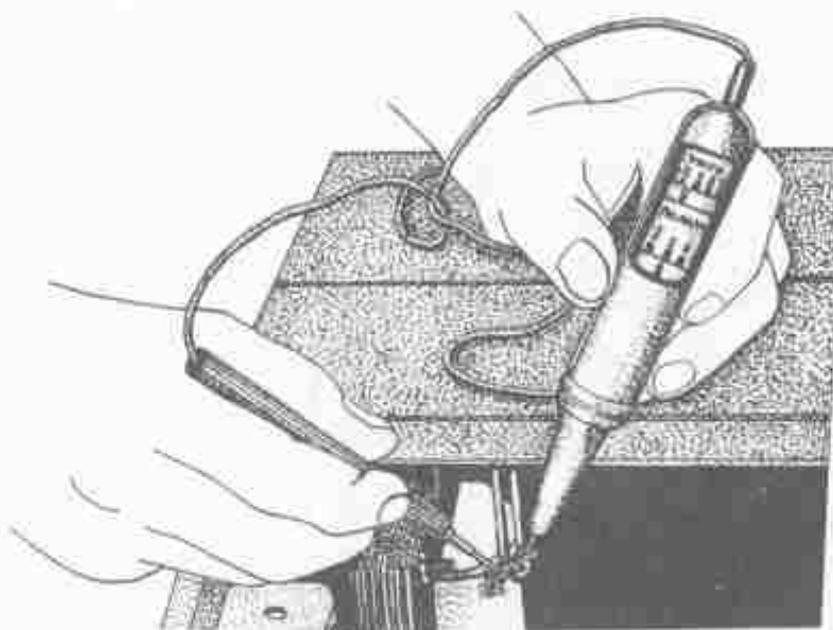

Figure 4-11. Measuring Line Voltage on Transformer with Voltage Indicator-Probe
(1) The presence and magnitude of line voltage at junction boxes and power transformers can be indicated. Figure 4-11 shows the Probe in use indicating the presence of AC voltage at a power supply transformer.